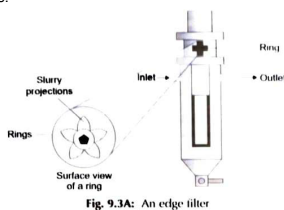

Fig. 9.3A: An edge filter
**Construction:** Meta filter consists of a series of metal rings (Figs 9.3A and B). The thickness of the ring is about 0.8 mm and inner as well as outer diameters are about 15 and 22 mm respectively. These rings are threaded to form a channel on the edges. Each metal ring has various semicircular projections on one side of the surface. These projections are arranged the same way up. The rings are tightened on the drainage rod with nut. Hence also known as edge filters. These filters are mounted in a vessels and may be operated by the application of reduced pressure to the outlet direction or by pumping the slurry under pressure. To separate the fine particles from the slurry, first, a bed of a suitable material (e.g. Kieselguhr) is built-up.